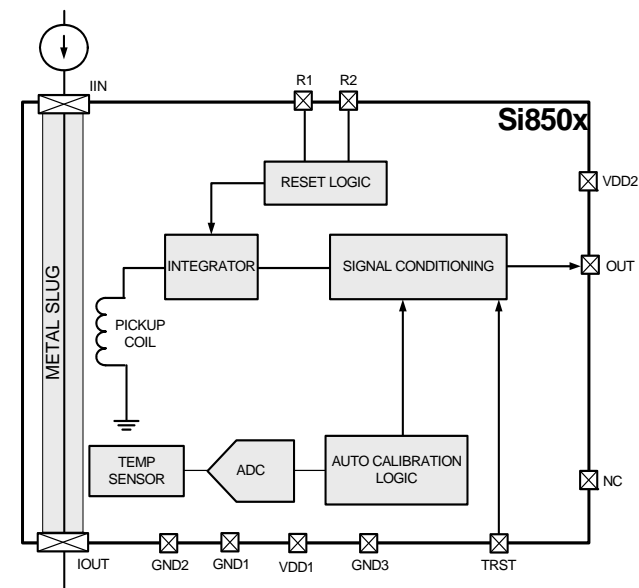

Figure 2. Si850x (Single Output) Block Diagram
The Si85xx ac current sensor family of products mimics the functionality of traditional current transformer (CT) circuits with burden resistor, diode, and output filter, but offers enhanced performance and added capabilities. These devices use inductive current sensing and on-board signal conditioning electronics to generate a 2 V full-scale output signal proportional to the ac current flowing from the IIN to the IOOUT terminals. As shown in Figures 2 and 3, current flowing through the metal package slug induces a signal in the pickup coil on the Si85xx die. This signal is applied to the input of an integrator that reconstructs the ac current flowing from IIN to IOOUT. Onboard circuitry provides cycle-by-cycle integrator reset and temperature and offset voltage compensation to achieve initial measurement accuracy to within $\pm 5\%$.